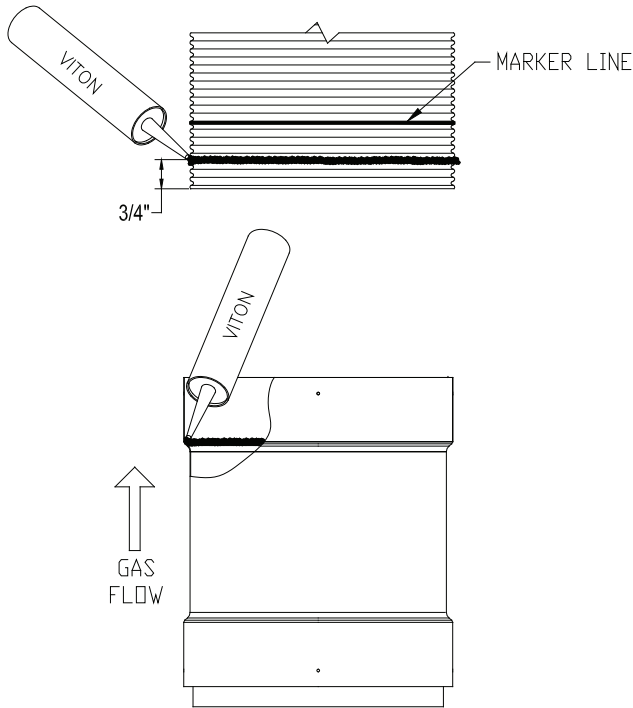

Figure 18 - Secure Seal Flex Viton® caulking
2.1. Add a bead of Viton® caulking (resistance to condensate) all around inside the adapter on the beginning of the flare. Add another bead of Viton® caulking all around the outside of the flexible liner at 3/4" from the edge (Figure 18).